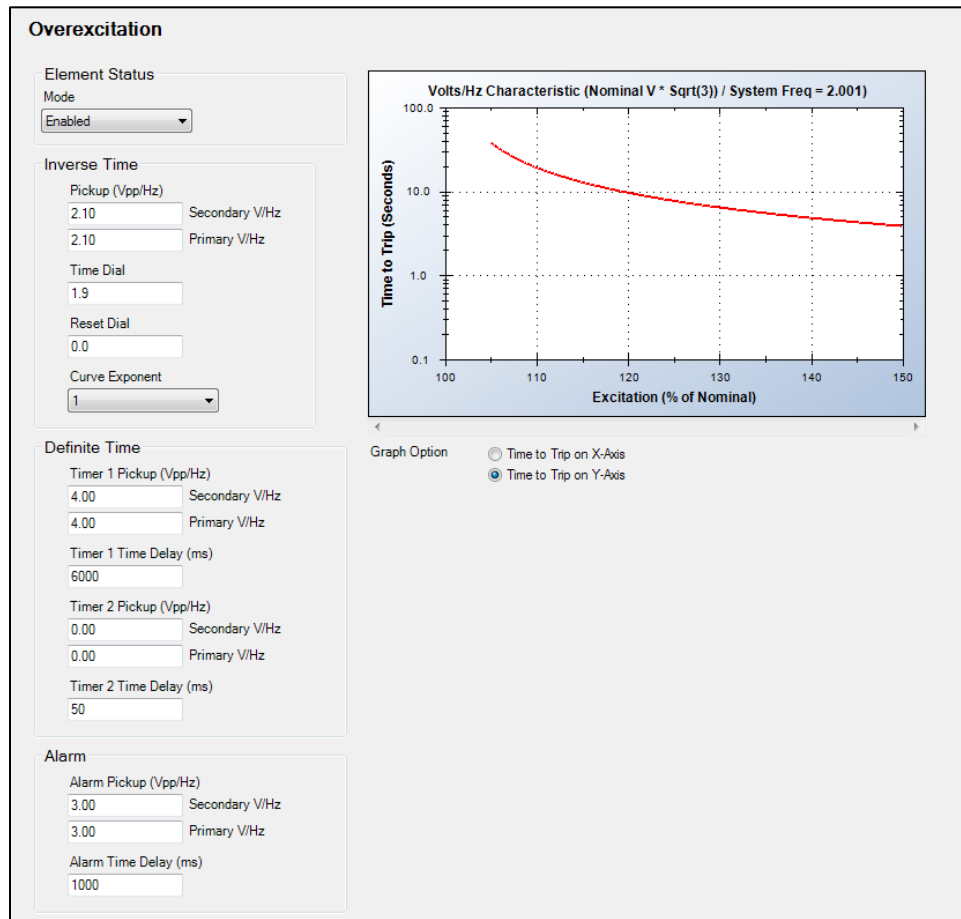

Figure 5-2. Overexcitation Settings Screen
Overexcitation operational settings are configured on the Overexcitation (24) settings screen (Figure 5-2) in BESTCOMSP^{lus}.